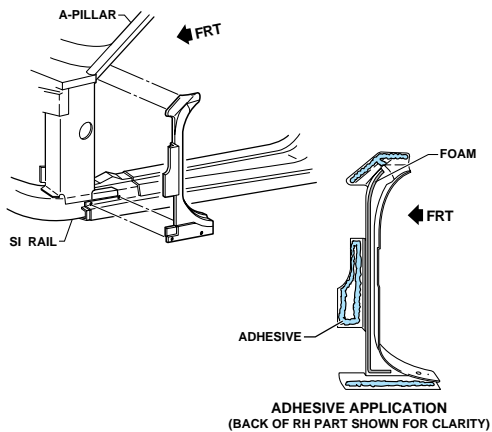

Fig. 3.35 —
- 5 The front body hinge pillar portion of the side door opening panel has a foam seal that must make contact with the front hinge pillar (Fig. 3.35).